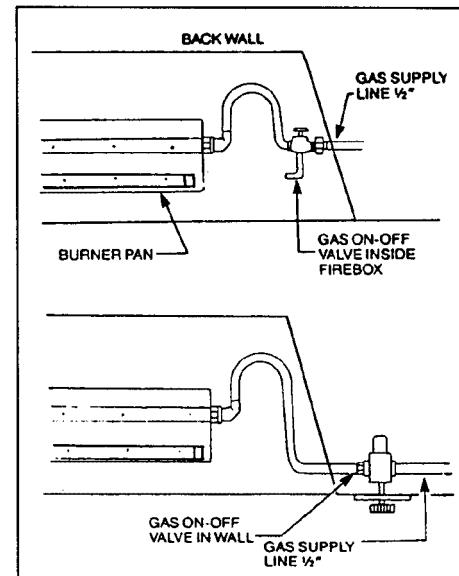

Figure 4. Gas line installation - Masonry Fireplace
E. **Masonry fireplace:** A 1/2 inch gas supply line must be provided to the firebox. Most installations require drilling an access hole through the masonry wall. The supply line should be secured and sealed by mortar within the access hole. The supply line should also have a shutoff valve either in the wall or inside the fireplace (see **Figure 4**).